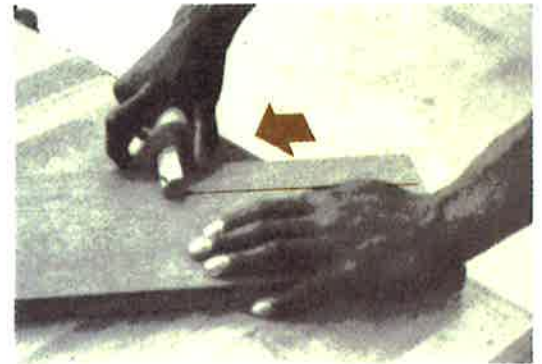

Fig. 7-27. Pushing the marking gage to scribe a line.
3. Push the marking gage forward on the wood to make the marking (Fig. 7-27). Hold the head of the gage firmly against the edge of the board while you scribe, or mark, a light line.